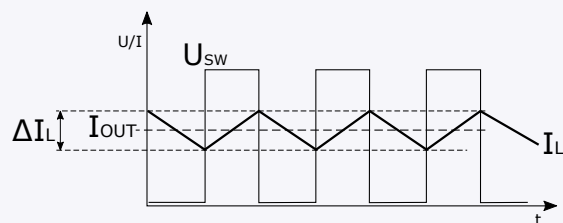

Figure 5: Voltage and current waveforms.
The inductor ripple current ΔI_L is the difference between the minimum and maximum current through the coil. In other words, it is the peak-to-peak waveform of the average (DC) current through the coil (**Figure 5**).